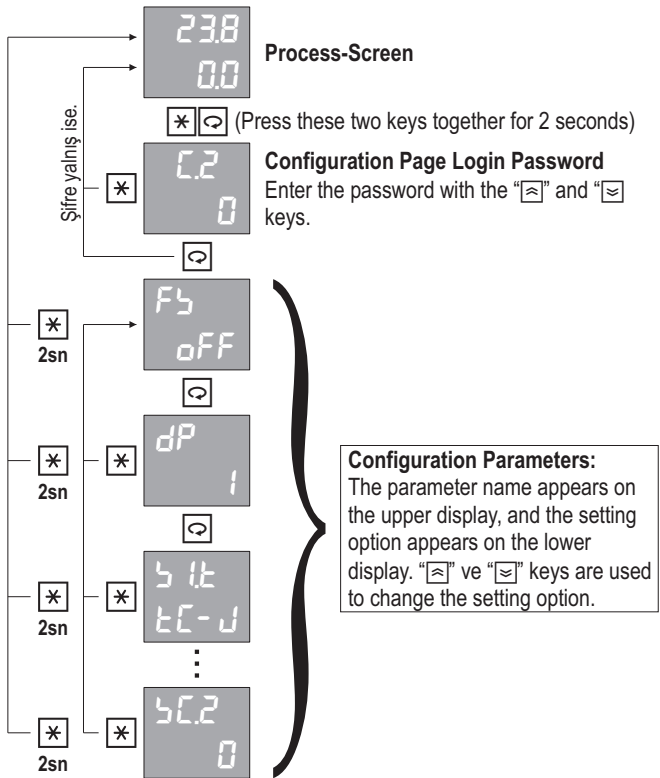

Figure-3
- ◆ Figure-3 below is a graphical representation of these processes.